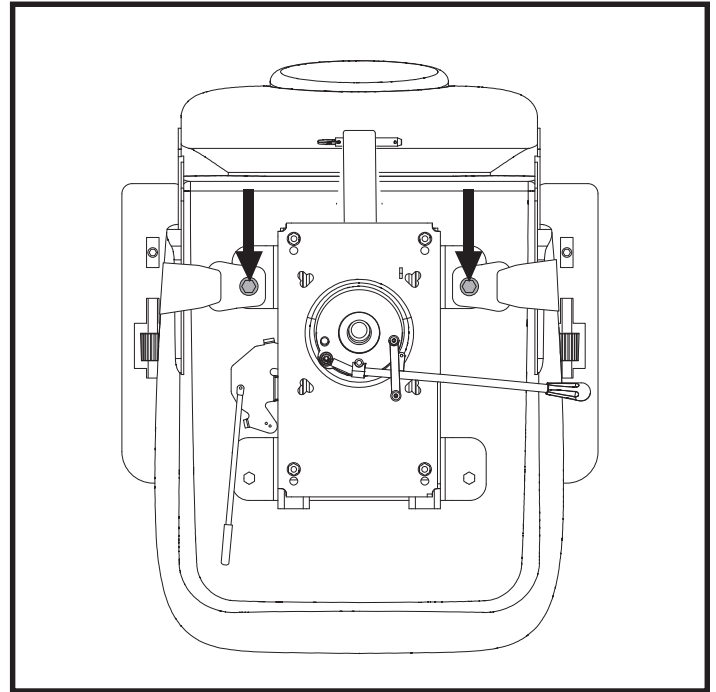

Figure 23. Positioning Belt Bolts
2. Place the seat upside down so that you can see the bottom of the seat base. **See figure 23.**